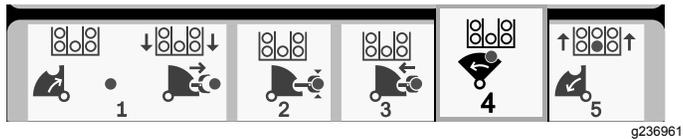

Figure 23
8. Release the button to proceed to the next step in the sequence (Figure 23).